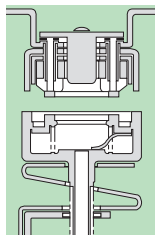

Fig. 4
- at zero current, the gap between the contacts recovers its initial dielectric strength thanks to the inherent qualities of SF6 gas (fig. 4).